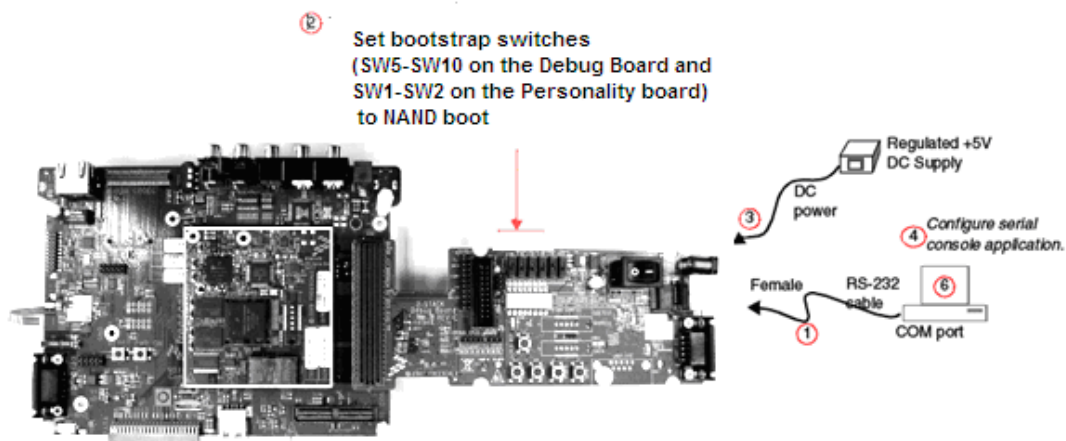

Figure 3-5 Connecting the Platform to the PC
Figure 3-5 illustrates the components and locations for the steps that follow.
3. Connect the regulated 5V power supply to the appropriate power adapter. Plug the power adapter into an electrical outlet and the 5V line connector into the J2 (5V POWER JACK) connector on the Debug board. See Figure 3-5.